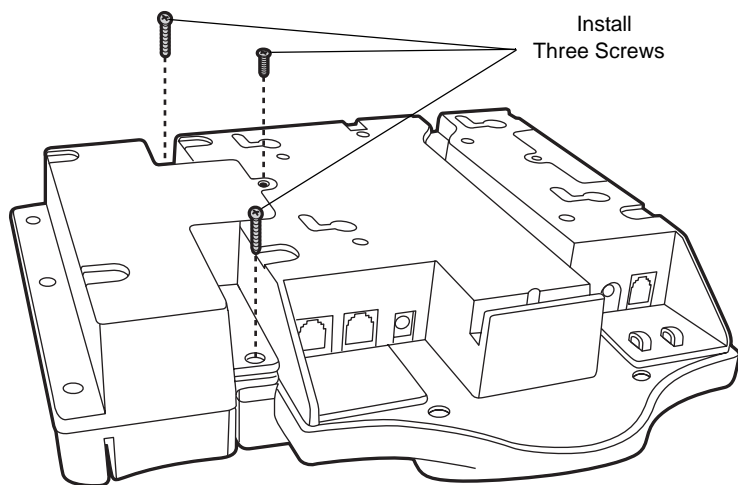

Figure 2-13 Securing the MSR to the MK1200
5. Secure the MSR to the MK1200 as shown in Figure 2-13. Use the shorter screw from the protective cover, and two new (longer) screws provided with the MSR.